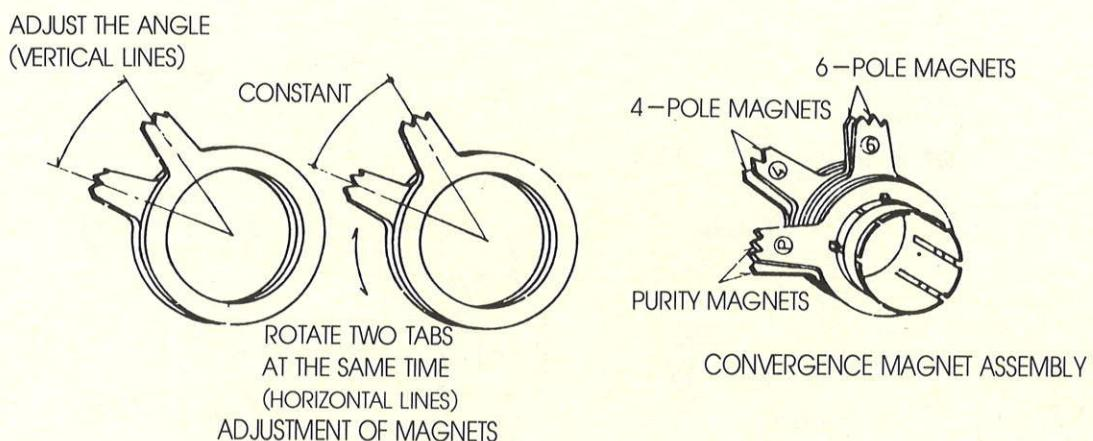

Fig. 4
- 7) Rotate and spread the tabs of the purity magnet ( See figure 4 ) around the neck of the picture tube until the green belt is in the center of the screen. At the same time, center the raster vertically.
- c) Adjust two tabs of the 4-Pole magnets to change the angle between them ( See figure 4 ) and superimpose RED and BLUE vertical lines in the center area of the picture screen.( See figure 5 ).